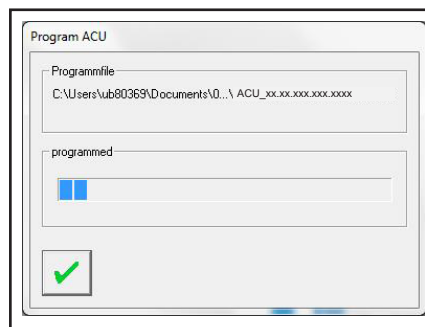

Figure 8 - Typical Progress Window
- 1.15. A progress window will appear. See Figure 8.